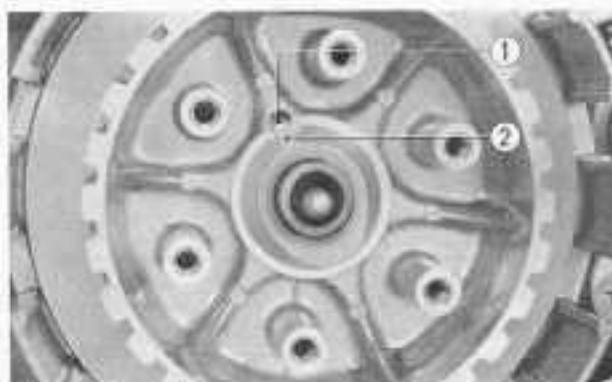

Fig. 3-13 ① Hole
1. Put the tab of the lock washer into the hole in the clutch center as shown in Fig. 3-13, and tighten the lock nut to the specified torque. Then, bend the tab of the lock washer to lock the lock nut.